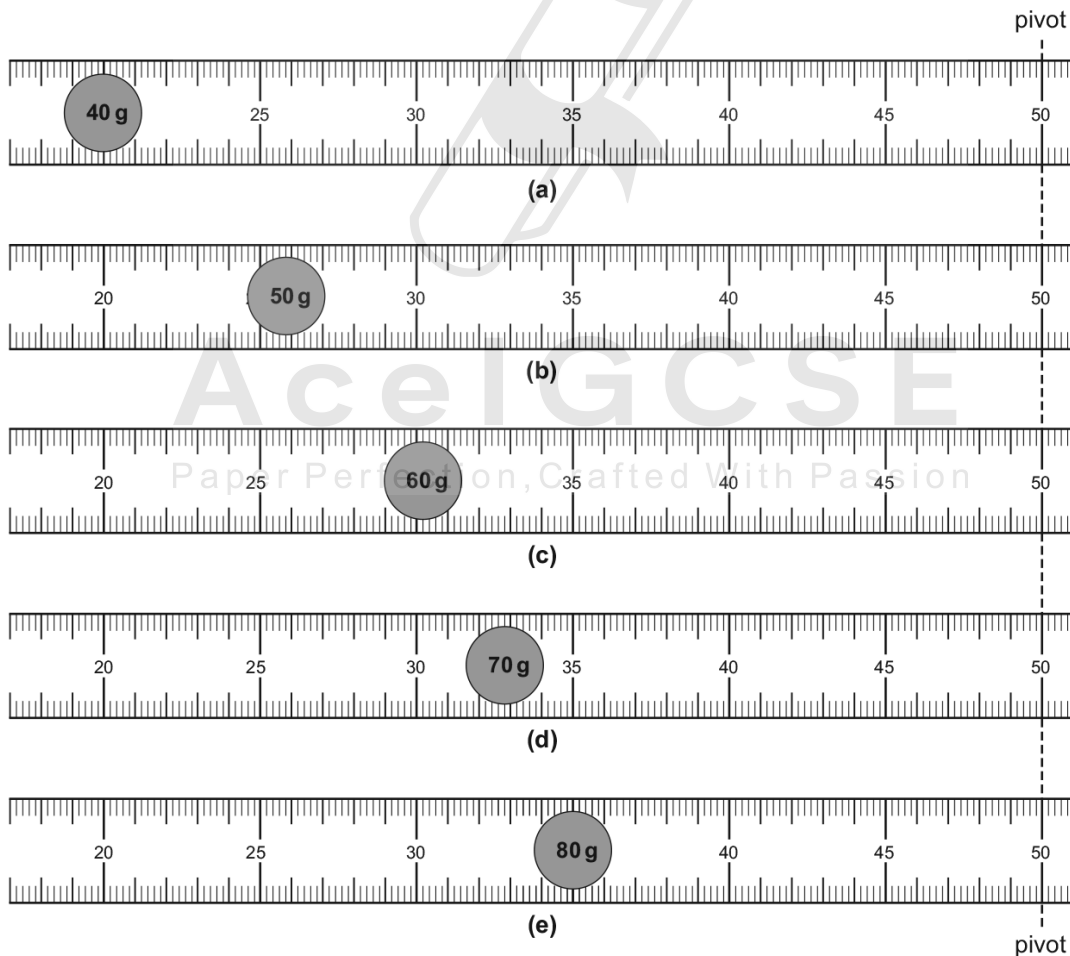

Fig. 1.2
A mass m of 40 g is placed on the rule and its position adjusted so that the rule is as near as possible to being balanced with the 50.0 cm mark exactly over the pivot. Fig. 1.2(a) shows part of the rule when it is balanced.
The procedure is repeated for a range of masses. Fig. 1.2(b)–(e) shows the rule when balanced for values of m of 50 g, 60 g, 70 g and 80 g.
- (a) (i) Use Fig. 1.2 to determine d , the distance between the mass and the pivot at balance, for each value of m . Record your results in Table 1.1. [3]